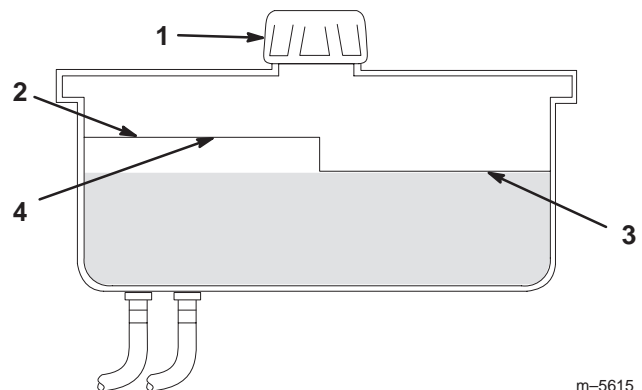

Figure 41
2. Clean area around filler neck of hydraulic tank (Fig. 41).
3. Remove the cap from the filler neck. Look inside to check if there is fluid in the reservoir (Fig. 41).
Note: The fluid level should be to the top of the **hot** level of the baffle, when the fluid is hot (Fig. 41).